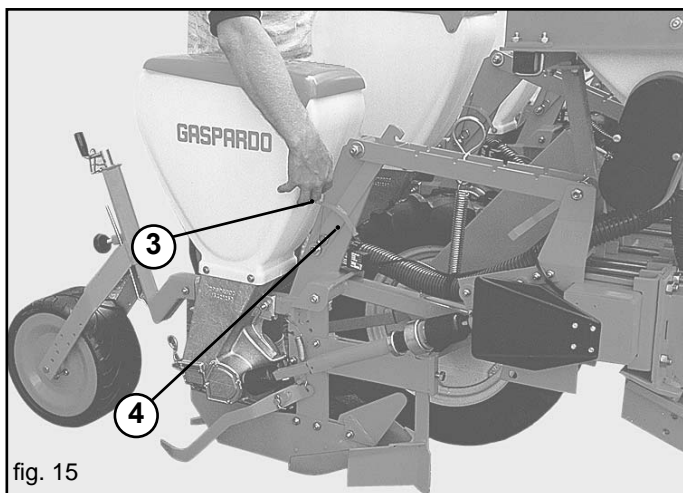

fig. 15
- Hook the spring the position 3 (Fig.15)
- Hook the spring the position 4 (Fig.15);